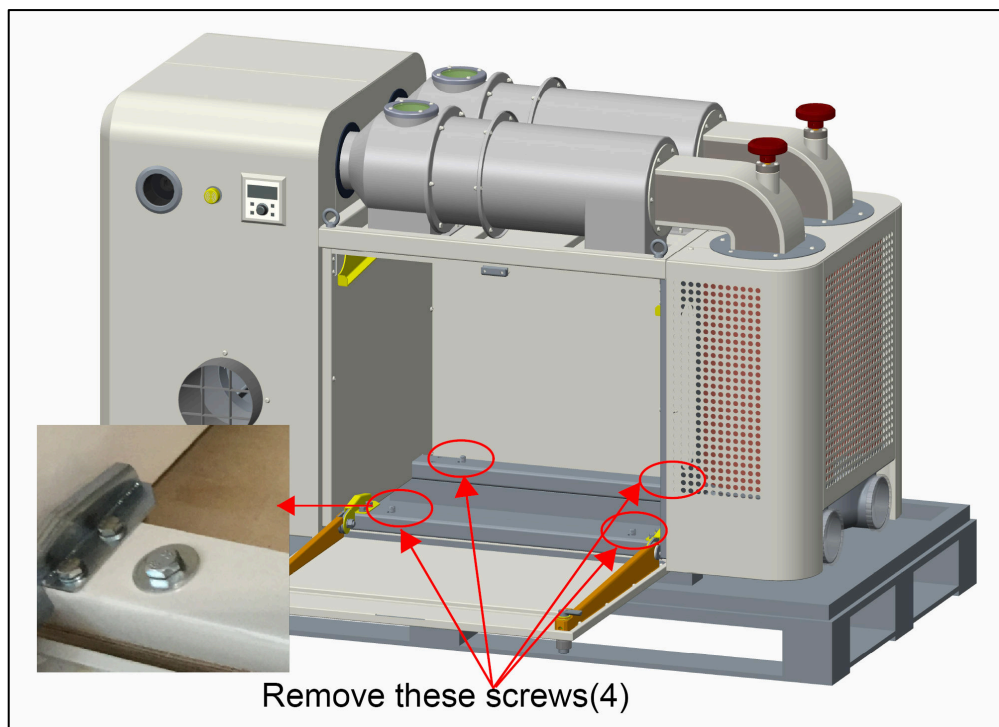

Fig.8
Step 1: As **Fig.8** indicated, you can find four Hex head screws at the bottom, remove these screws.